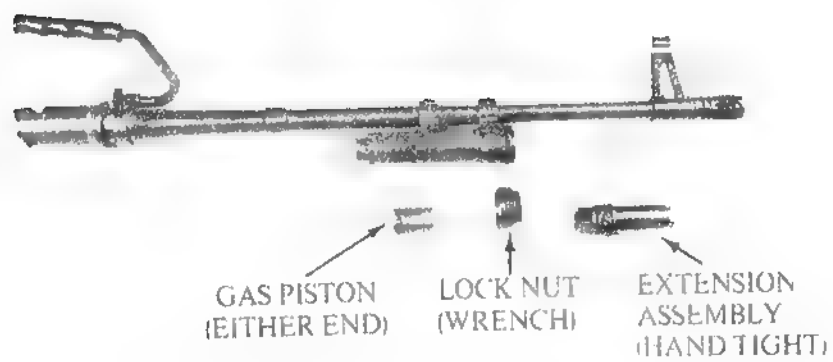

Figure 1-6. — Reassembly of the Gas System.
**1404. ASSEMBLY.** When assembling the gas system, either end of the gas piston can be put in first. The extension assembly is then screwed on hand-tight, ensuring the flange seats against the gas cylinder (Figure 1-6). The lock nut is screwed on and tightened securely with a combination wrench.